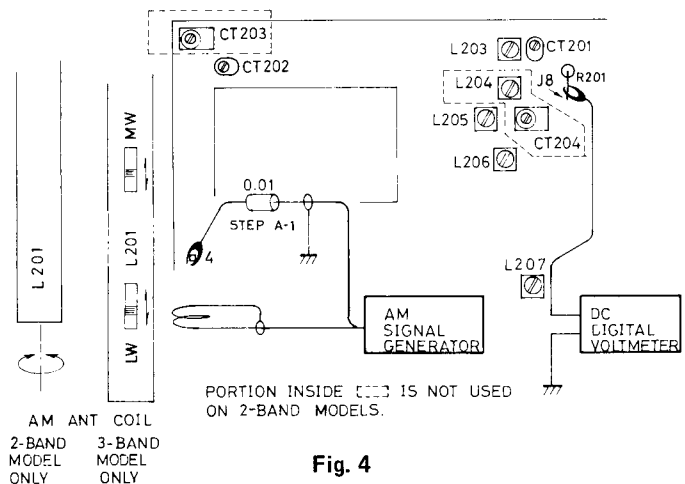

Fig. 4
1. Connect the oscilloscope and AC voltmeter to the output terminal. Feed 450kHz signal from the AM signal generator to pin 4. (Fig. 4)